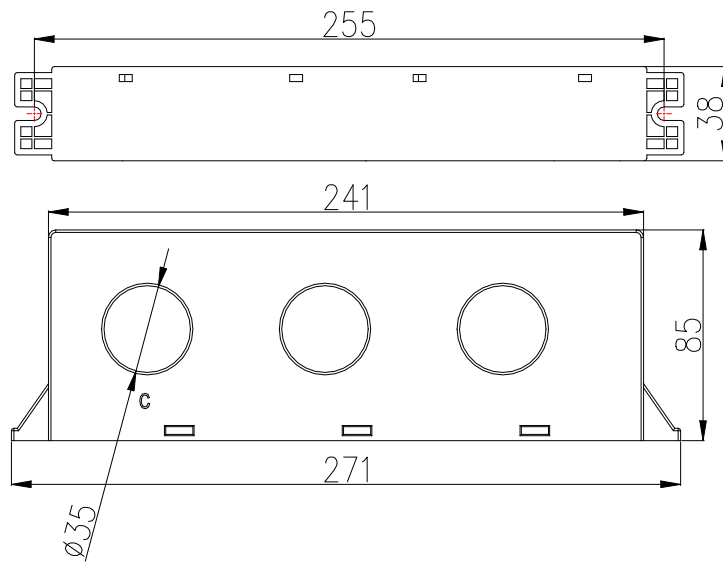

Figure 6 The external dimensions of split current transformer (250A and 800A current specification)
5.3.2 The external dimensions of split current transformer (250A and 800A current specification) are shown in figure 6 (Unit: mm):